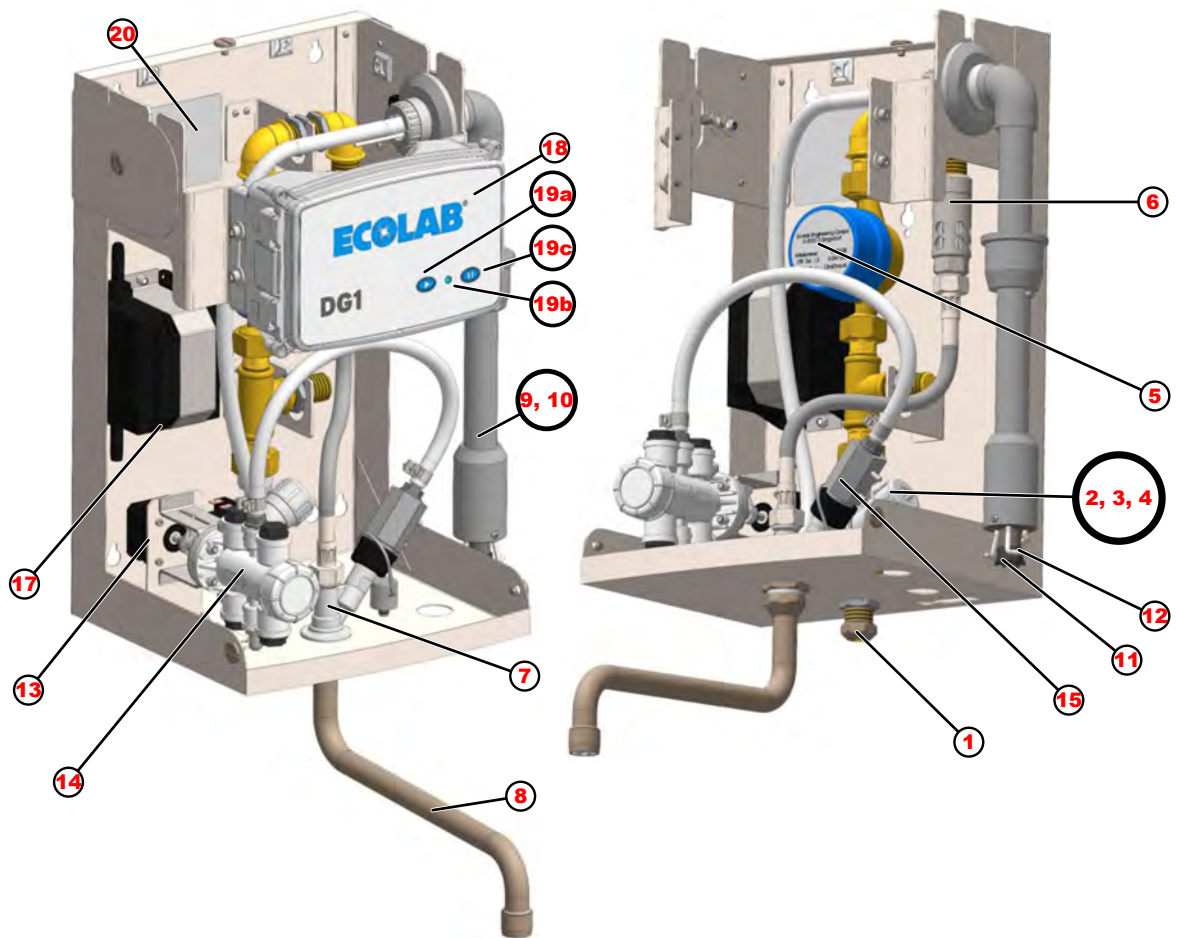

Fig. 2: Component description
A flow regulator is installed in the solenoid valve (Fig. 2, pos. 4) on the inlet side to limit the max. water flow.
The flow monitor installed upstream of the dosing point (see Fig. 2 pos. 15) monitors the disinfectant flow.